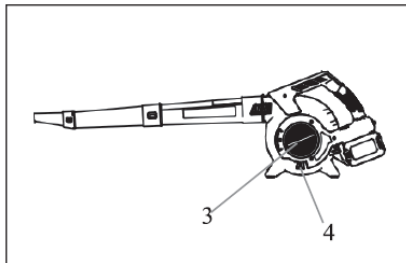

Fig.4
- Open the protective cover (3) of the suction aperture by pressing the locking of the suction aperture (4) in the direction of the suction aperture and pulling out the protective cover, turning it clockwise until it stops. You can now remove the protective cover (3). (Fig.4)